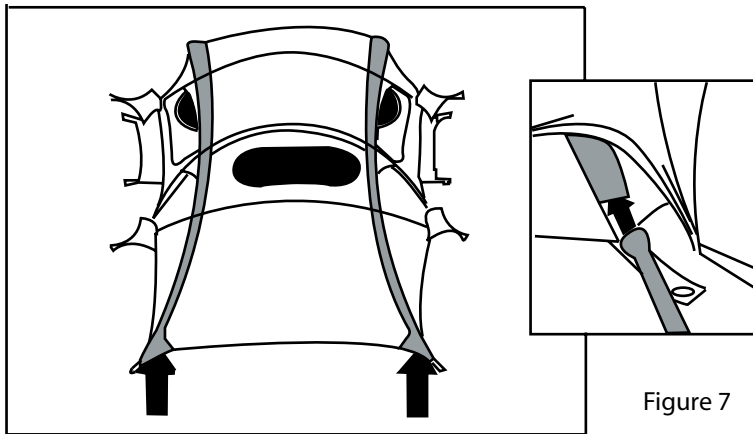

Figure 7
7. Slide each of the long black-tip poles ball-end first into each of the navy sleeves that run the length of the tent (Figure 7). Feed each pole into the sleeve until it fully seats against the closed end at the top of the tent.